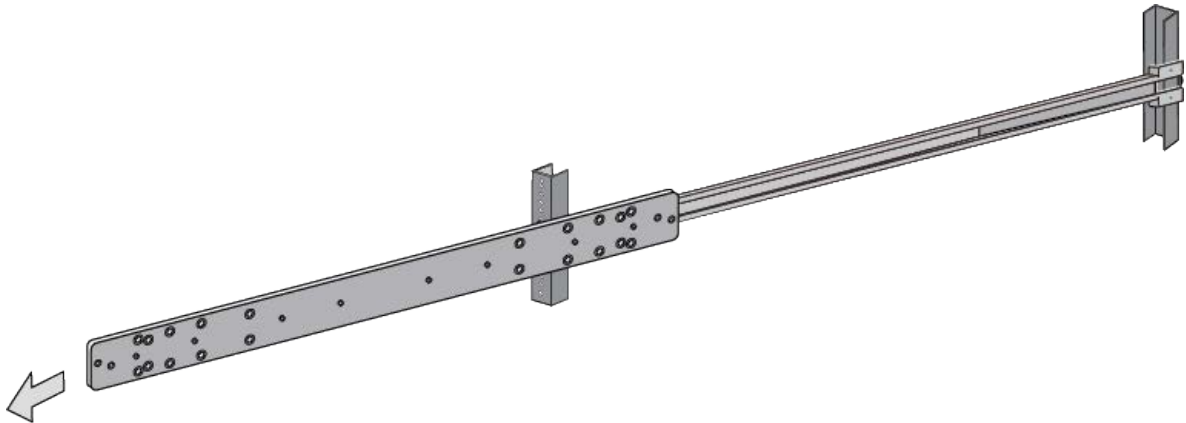

Figure 110. Removing the Inner Rail
- Remove the inner rail from the outer rail. Refer to Figure 110.